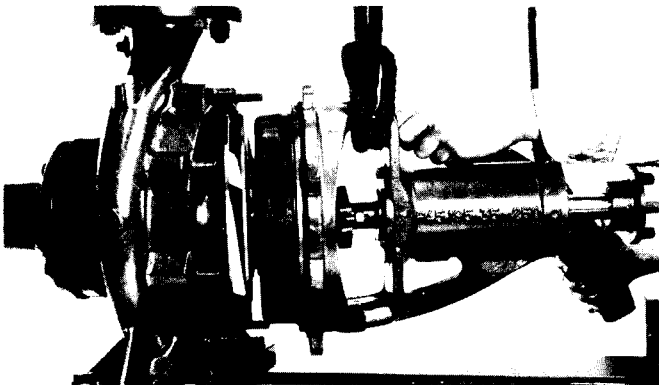

Fig. 10. Removing back pull-out unit. (K-Frame shown)
- h. Pry gently bearing frame No. 19 out of casing No. 1, pull it back towards driver until back pull-out element disengages from casing studs (Fig. 10).